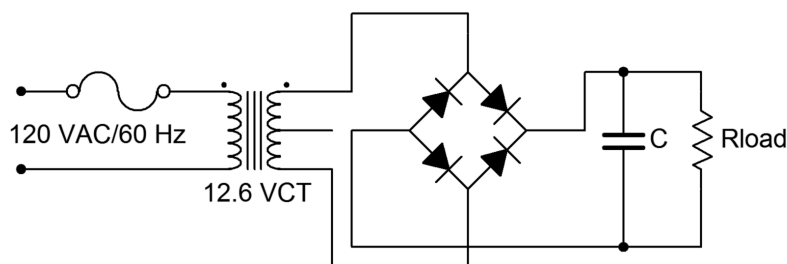

Figure 1
1. First, note that the circuit of Figure 1 is being powered directly from the AC line. Treat it with appropriate caution. It is worth repeating that any circuit should be de-energized when making any changes to it.
2. Consider the circuit of Figure 1 without the capacitor connected. For a positive polarity of secondary voltage, the upper right and lower left diodes will be forward biased and allow current to flow through the load from top to bottom. The other two diodes will be reverse biased. For a negative secondary polarity the opposite occurs. That is, the upper left and lower right pair will be forward biased while the other two are reverse biased. This arrangement will also cause load current to flow through the load from top to bottom, thus effectively flipping the negative polarity portion of the wave.
3. Build the circuit of Figure 1 with $R_{load} = 1\text{ k}\Omega$ and C disconnected (open). This represents a very lightly loaded case. Under light loads, the output of the secondary will often be a little higher than the rated potential. Set the oscilloscope input to DC coupled. Measure and record the voltage across the secondary and then across the load. Do **not** use two probes to do this simultaneously as these two measurements do not share a common ground. Doing so will short out a portion of the circuit. Record the results in Table 1 and capture an image of the load voltage display.